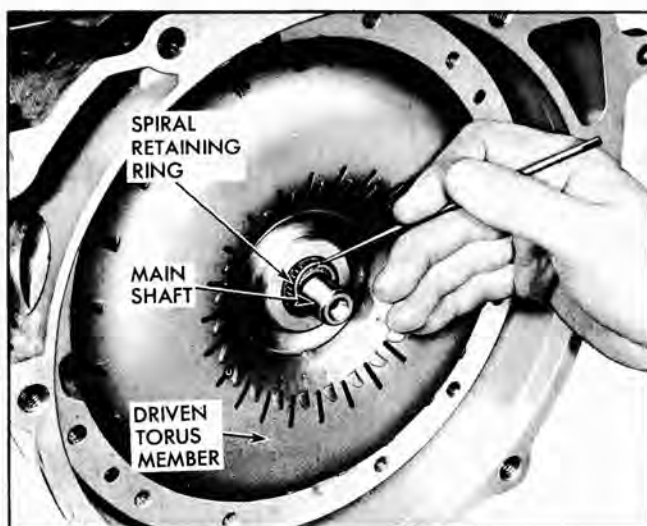

Fig. 128 Installing Spiral Retaining Ring on Main Shaft
10. While moving main shaft forward (with small tool inserted in hole of main shaft if necessary), install driven torus to main shaft spiral retaining ring (Fig. 128).
9. Install servo piston assembly into case, stem first (Fig. 128).